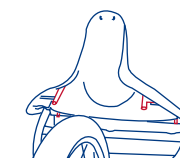

Fig. 7a
- Examine the bottom of the front fender. You will notice four 1/4 inch diameter plastic tubes protruding from the bottom (Fig. 7a).